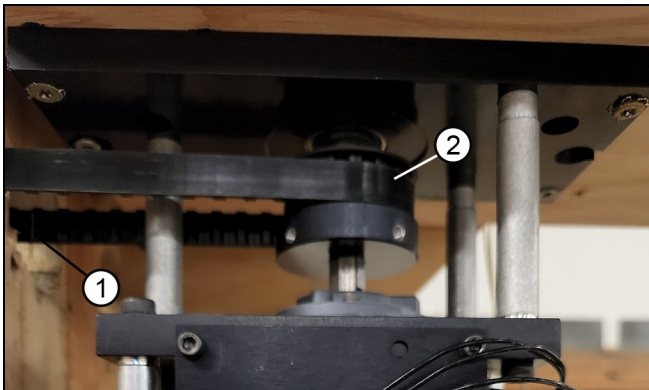

Figure 38
5. Thread the belt through the pass through corner key and around motor drive sprocket. Continue to thread the belt back over the panel tooth side up. See Figure 38